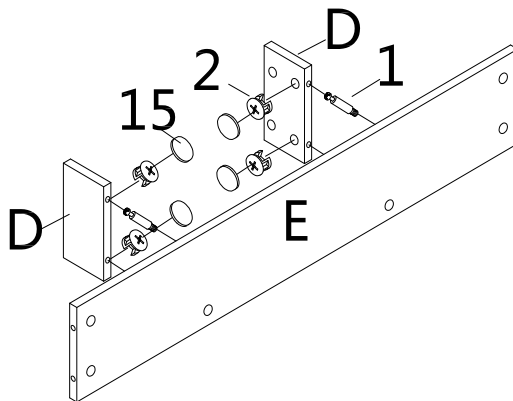

Figure 2
Insert Cam Locks (2) into predrilled holes on Upper Middle Panel (D) as shown in Figure 2.